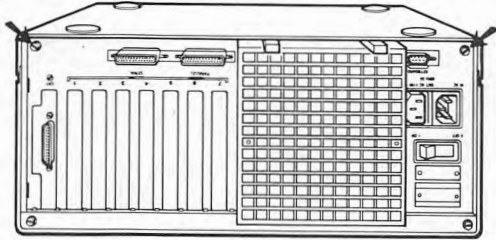

Figure 2-10. Location of bottom cover screws.
12. Carefully turn the processor over and loosen the two screws securing the bottom cover. See Fig. 2-10.